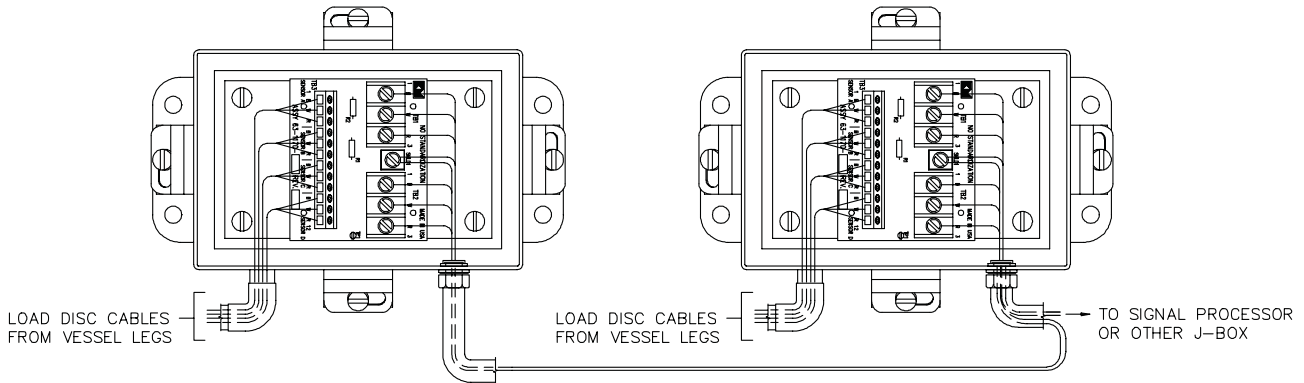

Figure 3-9: Wiring Stainless Steel Junction Boxes Together and to Signal Processor
2. See Figure 3-9. Route the 3-conductor cable through the fitting into the junction box farthest from the signal processor. Connect wires from the cable to the TB1/TB2 terminal in the junction box: **black wire to B, white wire to W, and brown or red wire to R.**